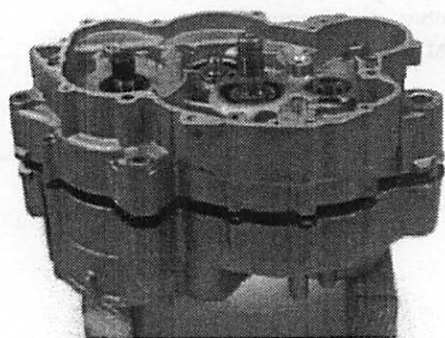

Figure 29
- As the 2 crankcase halves split, gently tap on the clutch shaft and mainshaft with a soft faced hammer to prevent them from binding in the left crankcase. During this step, both crankcases must remain parallel (Figure 29).